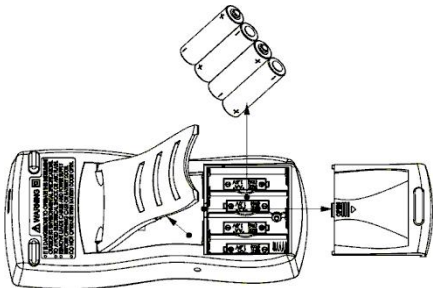

Figure 4.1 Schematic diagram of battery installation
- λ C512 AA (5) 1.5V alkaline battery, NiH battery, lithium batteries, high capacity battery, please make sure the battery positive and negative polarity is installed correctly.
- λ Step 2: support C512 on the back of the instrument support, will be hidden under the support of the battery compartment lid open, as shown in figure 4.1.
- λ Step 3: the installation of the 4 section 1.5V (5) AA battery, the positive and negative polarity of the battery at the bottom of the battery has instructions.